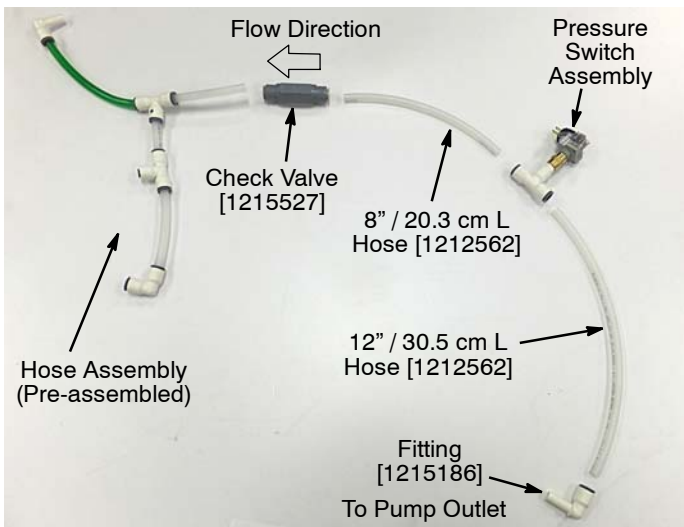

Fig. 31
- Assemble the ec-H2O solution hose assembly as shown (Figure 31).